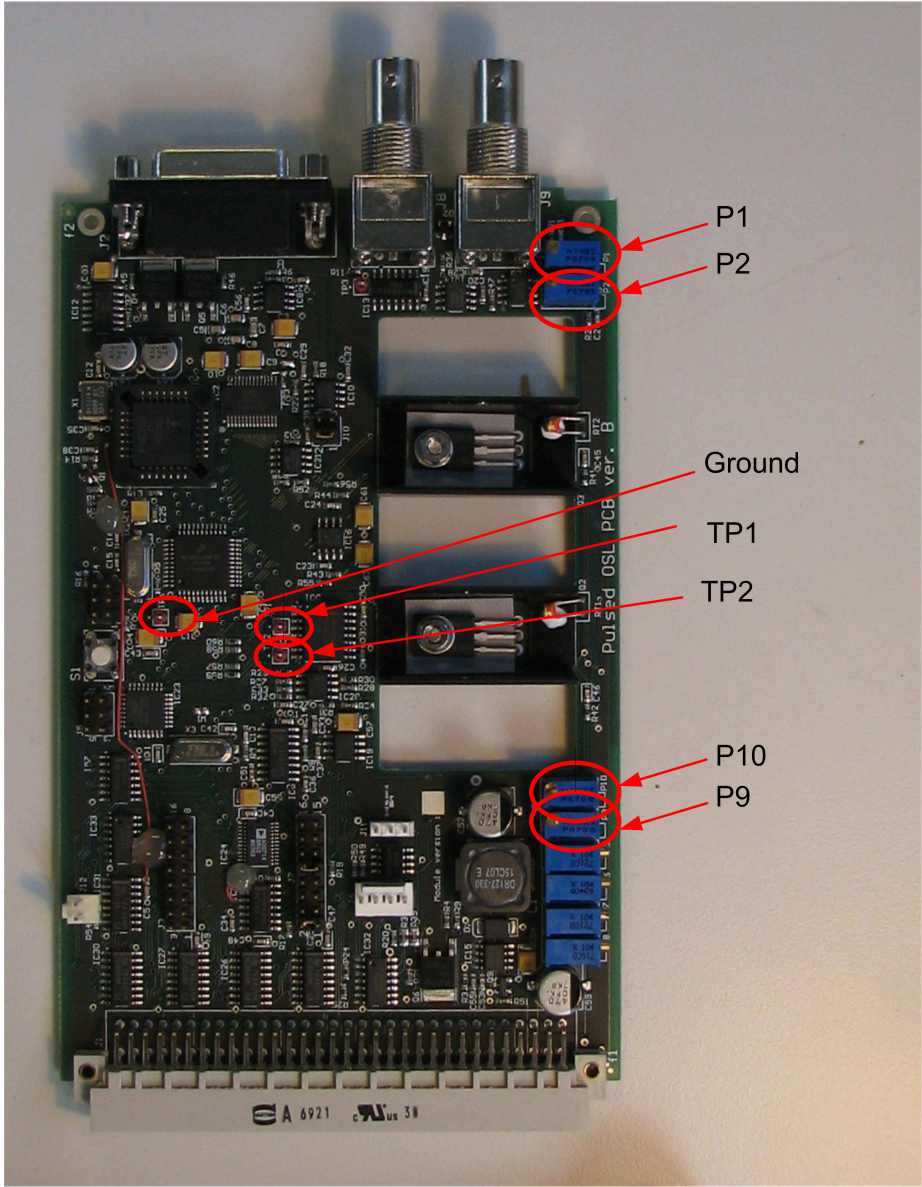

Figure 5: Picture of the circuit board. Please note the positions of “ground”, “TP1”, “TP2”, “P1”, “P2”, “P9” and “P10”
A picture of the circuit board is shown in Figure 5.
2. measure the voltage between “ground” and “TP1” (see Figure 5). Adjust “P9” to give -8.0 V (± 0.05 V)